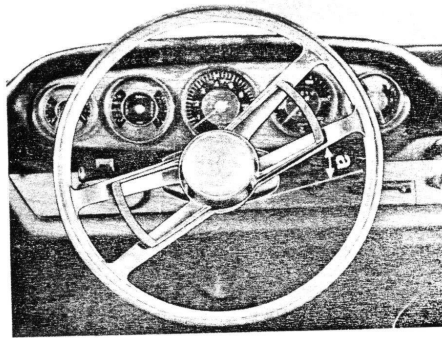

Fig. 8
3. Turn the steering wheel in opposite direction to lock, and note dimension "a" at the unmarked lower spoke (see Fig. 8).